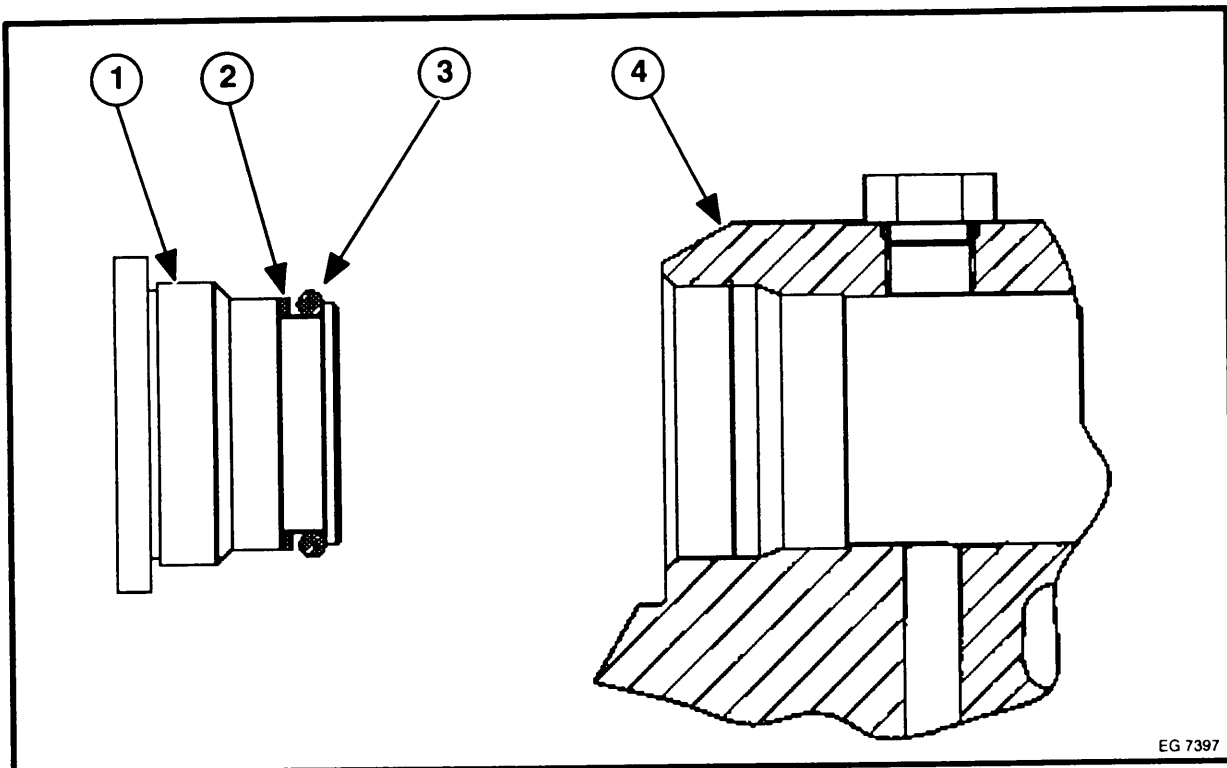

Figure 1 Back Up Ring And O-Ring Locations On Cylinder Head End Plug
3. Lubricate new back up ring (2, **Figure 1**) and new O-Ring (3, **Figure 1**) with clean engine oil prior to installation onto new end plug (1, **Figure 1**). Install back up ring and O-Ring onto end plug as shown in **Figure 1**.
TO ASSURE A PROPER SEAL, BE CAREFUL, NOT TO GET ENGINE OIL ONTO THREADS OF END PLUG (1, FIGURE 1).
4. Apply a small bead of Loctite® #277 around the threads of the new end plug (1, Figure 1).